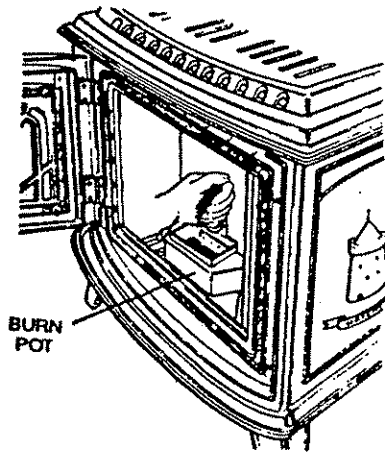

Fig. 26
5. Put approximately a fistfull of pellets over the fire starter, light the fire starter. (see fig.26)
7. Turn on the on/off switch (A).
8. When the pellets in the grate (item no. 6) have ignited, press auger mode switch (C) located in the centre of the PCB and set the fuel feed to be required heat output (1-6) (E).